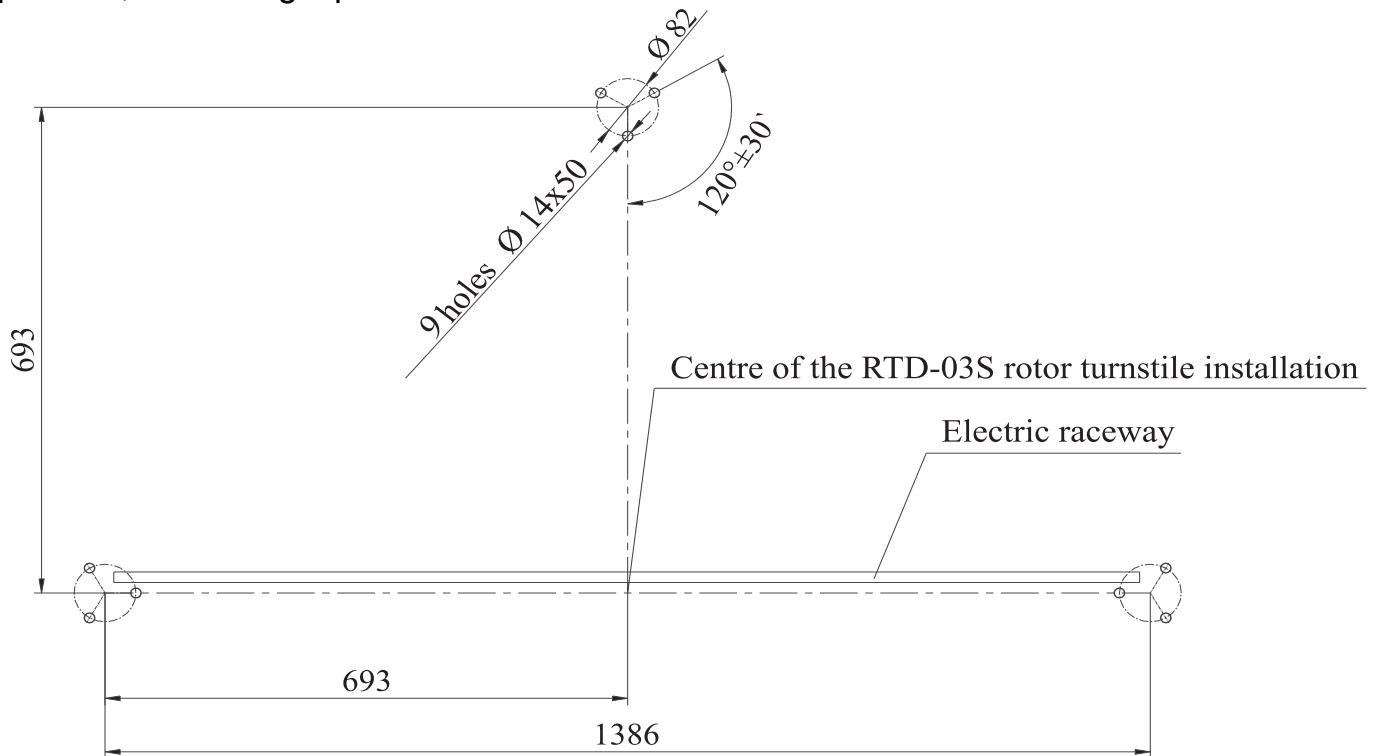

Fig. 3. Marking for mounting of the Railing set posts
- to mark the mounting holes according to the enclosed installation instructions (see Fig.3);
7.3.4. Mark out the holes for the anchor bolts for the guide barriers post installation as shown in Fig. 3.